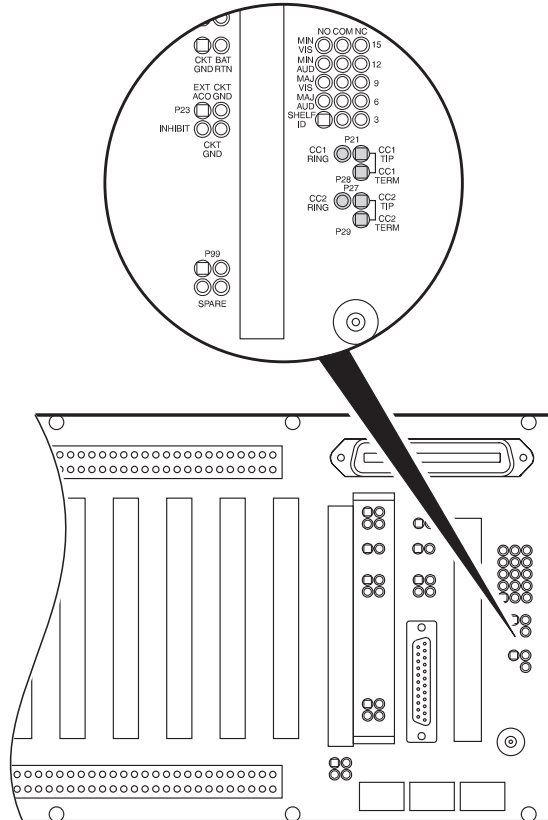

Figure 8. Connecting the Composite Clock and Alarms
- 8.5 Composite Clock.** When required for digital services, connect the composite clock (Figure 8). You can cascade the composite clock to other PG-Flex shelves.
- 8.6 Alarms.** If external audible and visual alarm indicators are required, connect the audible and visual alarm leads from the CO alarm panel to the COT according to Figure 8 and Table 13, and local practice.